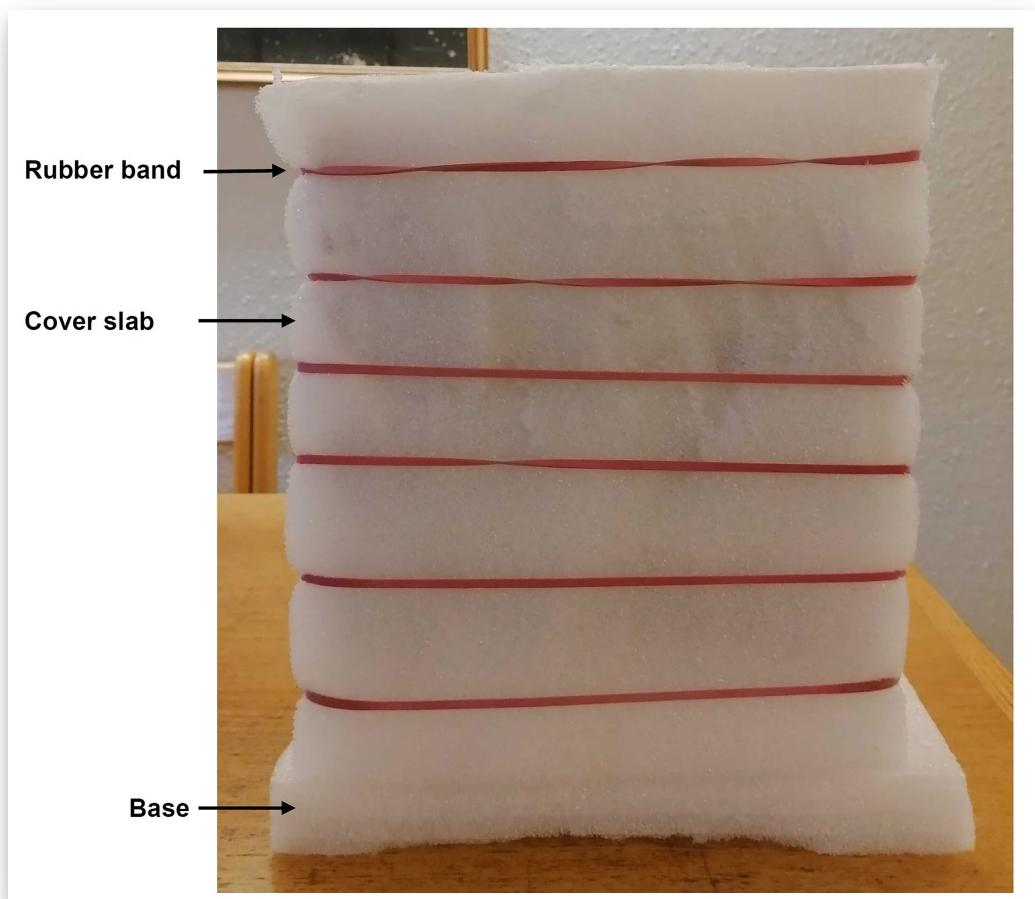

Fig. 2: Sealed Styrofoam bodies (cover slabs and main body) on its base and held together with rubber bands.
- 8.2 Tightly secure the two Styrofoam slabs and main Styrofoam body with plastic rubber bands (Fig. 2). Do not glue them together, as it will be difficult to disassemble when removing the lithics after scanning.